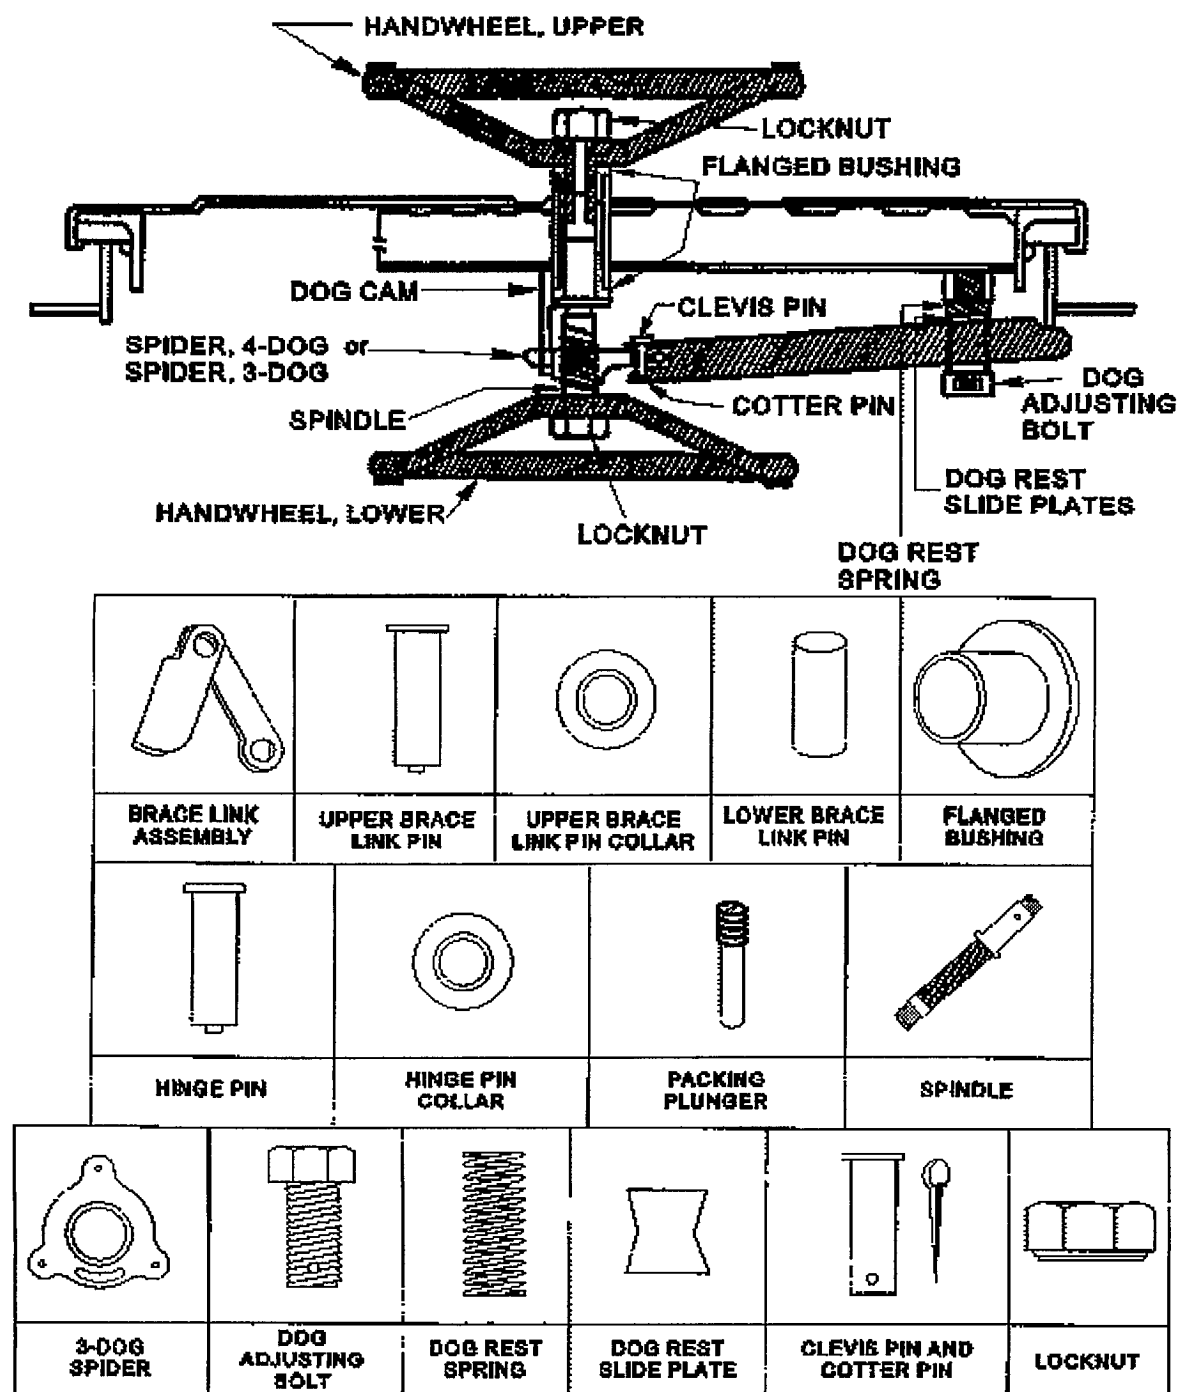
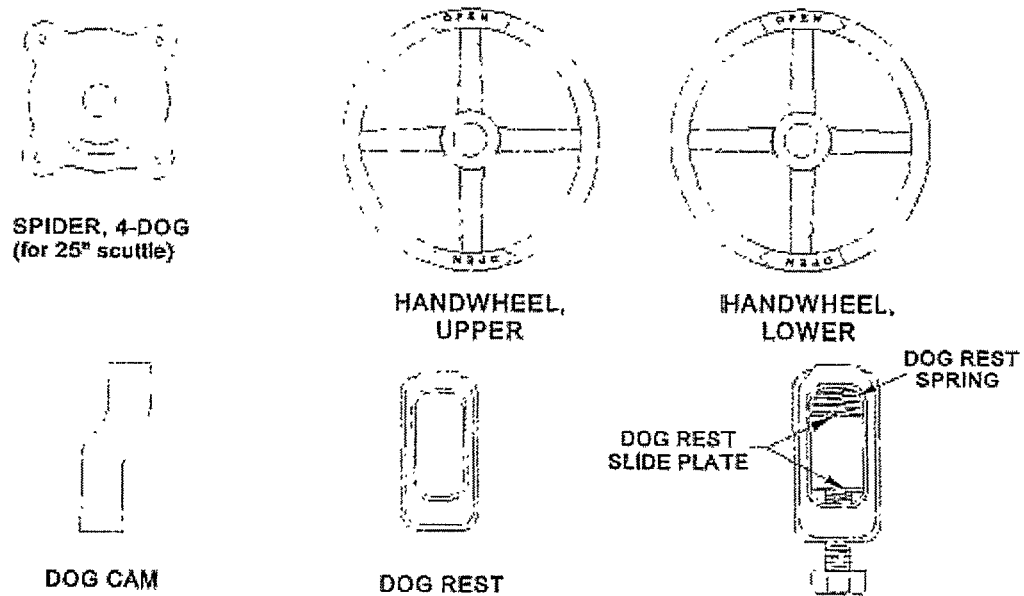

Figure 600-7.5. Raised Scuttle Components
Figure 600-7.6. Scuttle Components
- m) Examine the dog cam welded to the scuttle underside. See figure 600-7.5 and figure 600-7.6. Dog cams can become bent or break away completely over time from operation of the handwheels. If a cam requires replacing, it is important to position the new cam exactly in the same position as the old cam. Carefully mark the position of the old cam to indicate the proper fit-up of the new dog cam to the slot in the spider. If the old cam is missing, the old weld left on the scuttle will give a good idea of the proper position for the cam. Ensure the correct end of the cam is welded to the spider. The longer of the two sections of the cam is the end that should be welded. See figure 600-7.9.
- c) remove the dog arms from the assembly. See figure 600-7.5 and figure 600-7.6.
- n) Examine the dog cam welded to the scuttle underside. See figure 600-7.5 and figure 600-7.6 Dog cams can